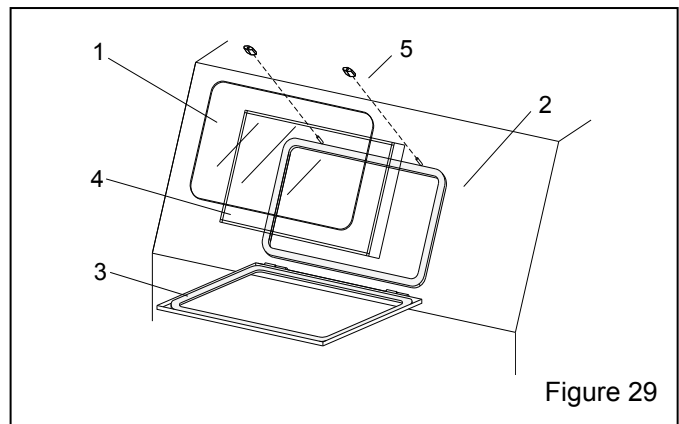

Figure 29
9.3 View Window Assembly, Figure 29